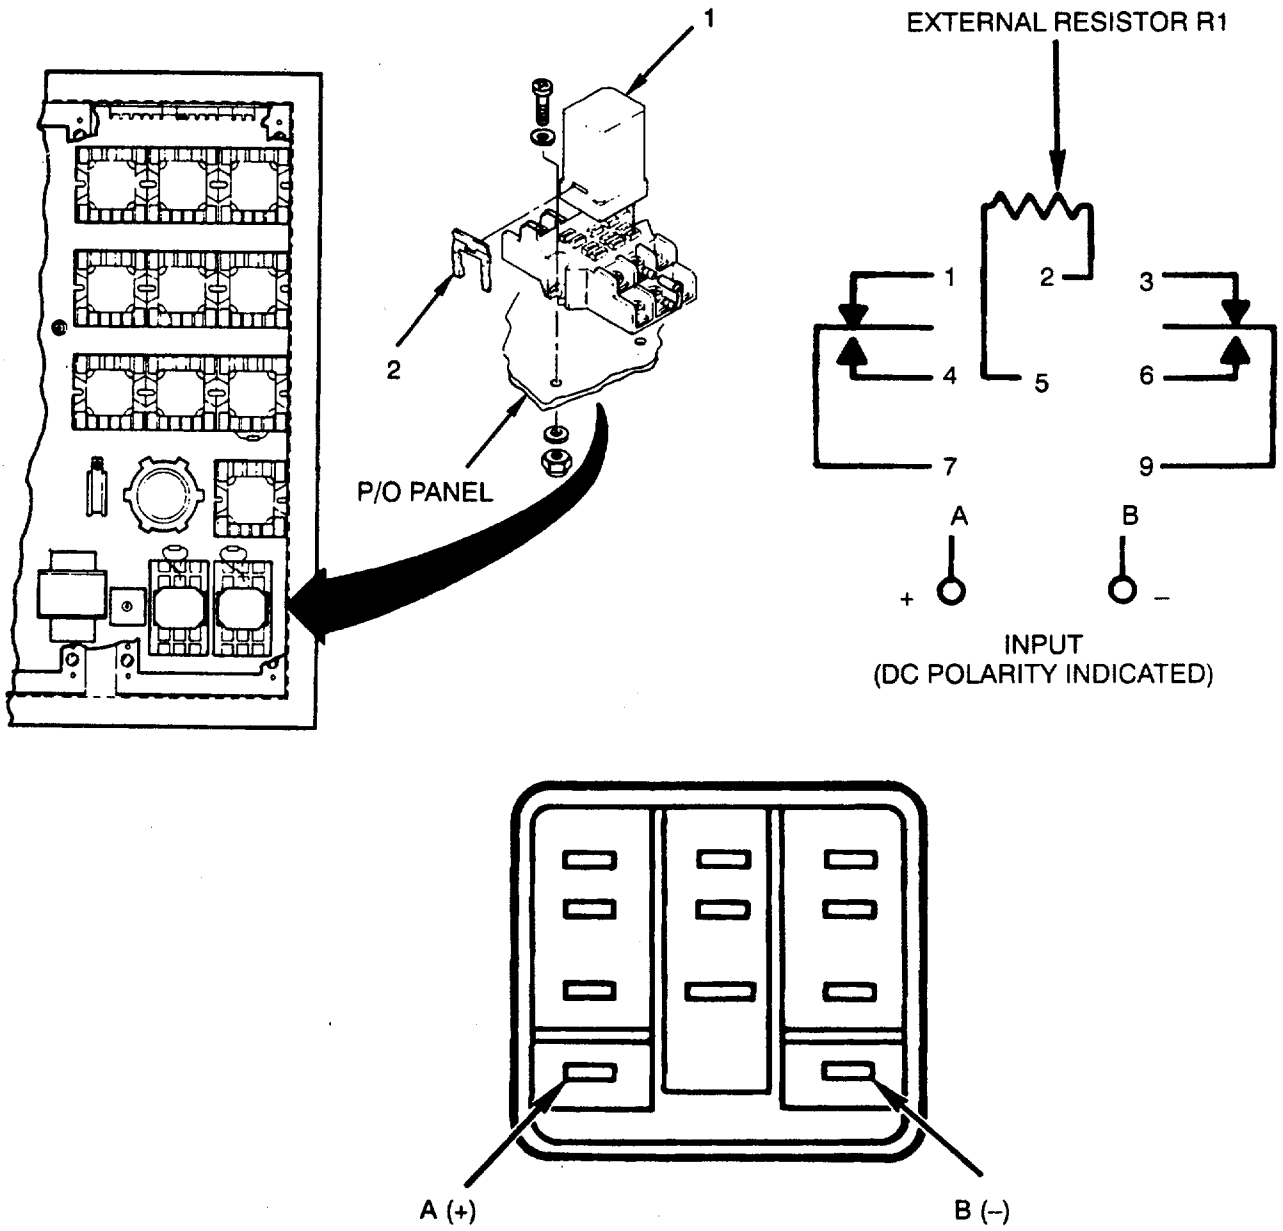

Figure 4-57. Time Delay (10 and 60 sec) Relays (K21 and K22).
1. Check for loose wire connections (see Figure 4-57).